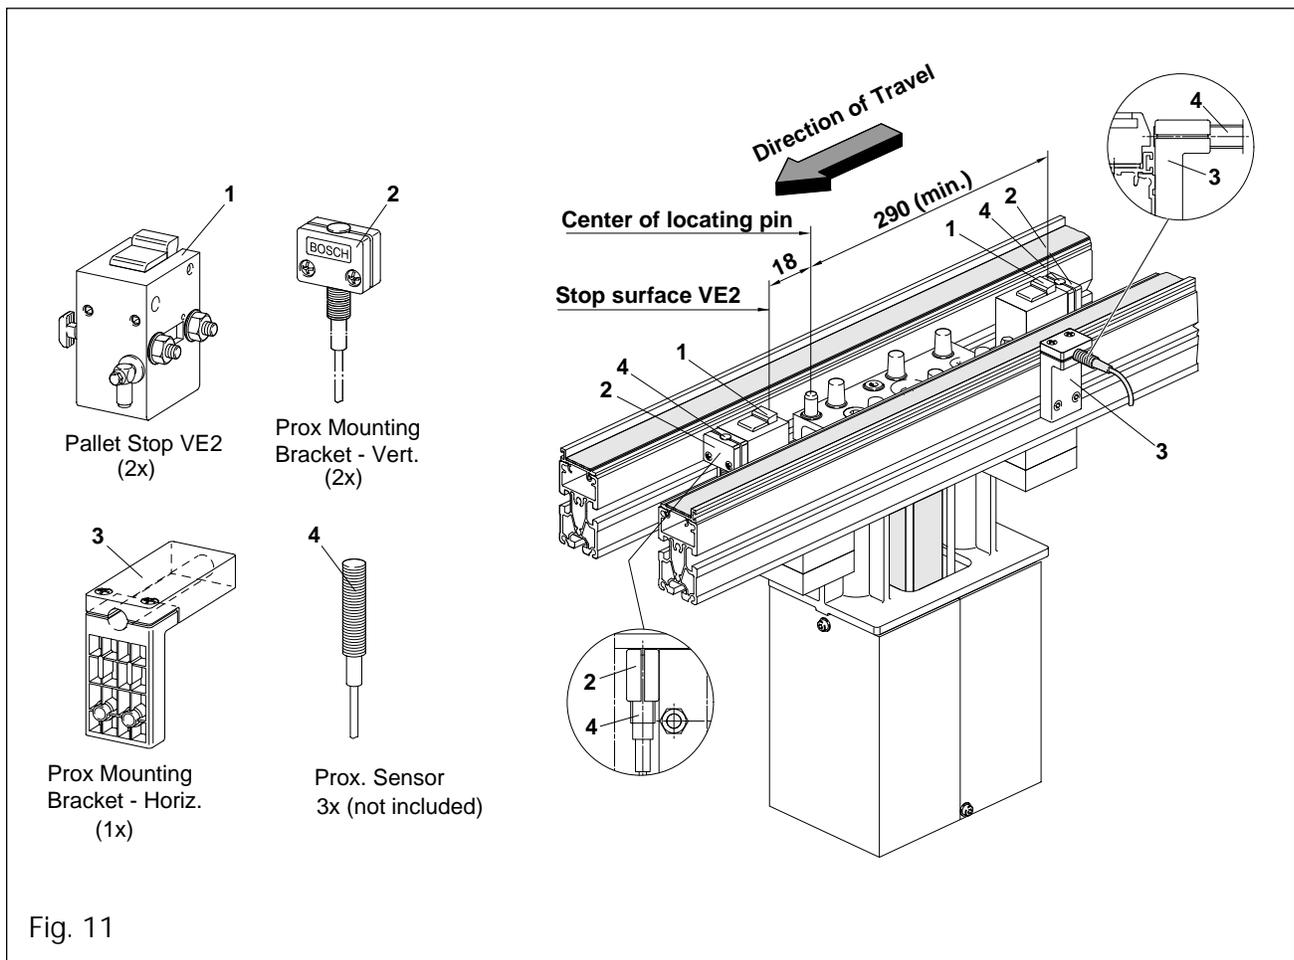

Fig. 11
Bolt one VE2 stop (1) 18mm from the center of the locating pin on the front side of the LPU, as shown in Fig. 11. Bolt the second pallet stop at least 290mm from the center of the same locating pin, as shown in Fig. 11.